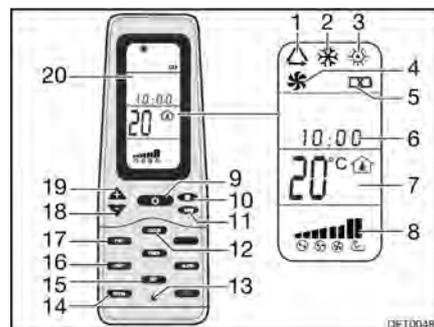

Fig. 141 Remote control
- Press the ON/OFF button (Fig. 141,9).
- Press the "Mode" button (Fig. 141,11) as often as required until the required mode (Fig. 141,1, 2, 3 or 4) is indicated on the display (Fig. 141,20).
- Use the "+" (Fig. 141,19) and "-" (Fig. 141,18) buttons to set the desired temperature.
- Use the fan speed button (Fig. 141,10) to select the desired fan level.